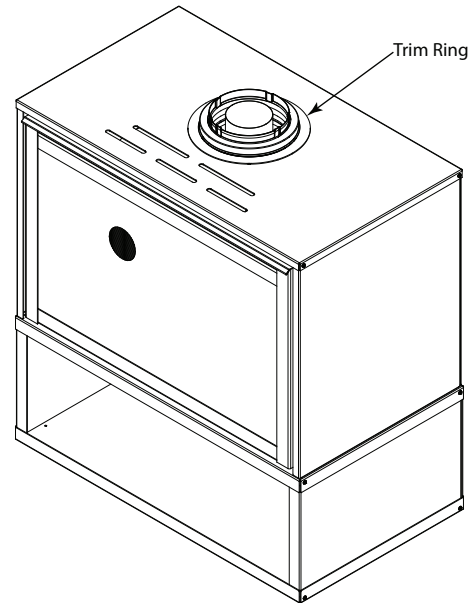

Figure 6.23
24. Install the trim ring around the collar by setting in place on top of the CK-30 cabinet. See Figure 6.23.